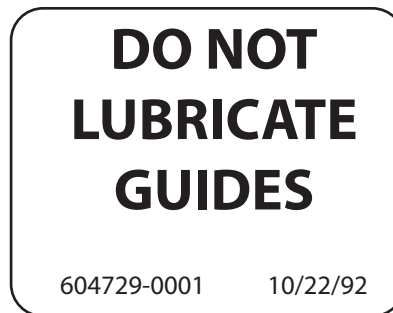

Figure 15
- Attach "Do Not Lubricate" Label 604729 to wall at eye level, Figure 15.